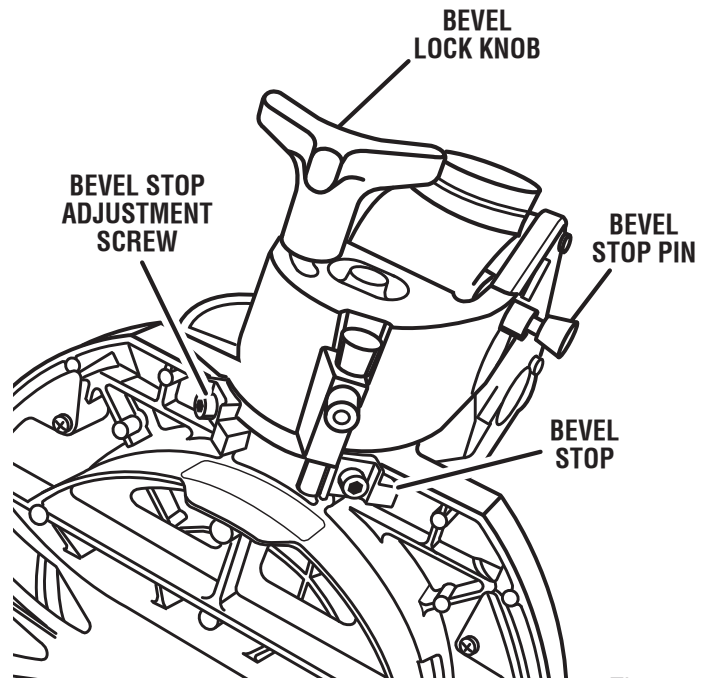

Fig. 28
- Using the blade wrench, loosen the bevel stop adjustment screw and slide the bevel stop left or right as needed to bring the saw blade into alignment with the square. Retighten bevel stop adjustment screw. See Figure 28.